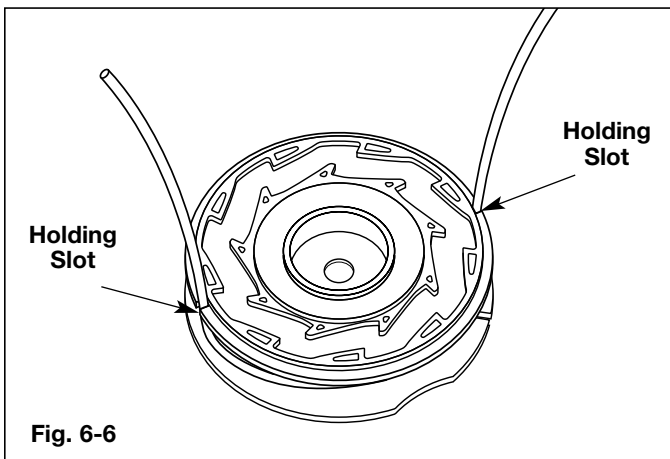

Fig. 6-6
12. Insert the ends of the line into the two holding slots (Fig. 6-6). Leave about 4 inches (102 mm) of line beyond the holding slots.